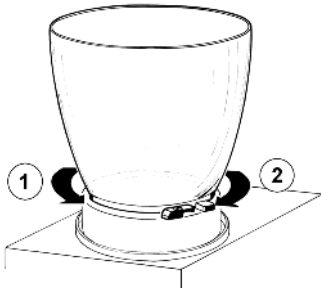

figure 2
counterclockwise (see figure 2).
- 2 Fit bowl gasket to the bowl around its seat. Place the bowl on the unit and then push it down all the way. Fix the bowl by rotating (2) it clockwise. Wet the gasket for ease of insertion (see figure 2).
- 3 Push (1) the dispensing button and insert (2) the pinch tube into its seat in the evaporator bottom. Lightly pull (3) the pinch tube end downwards till